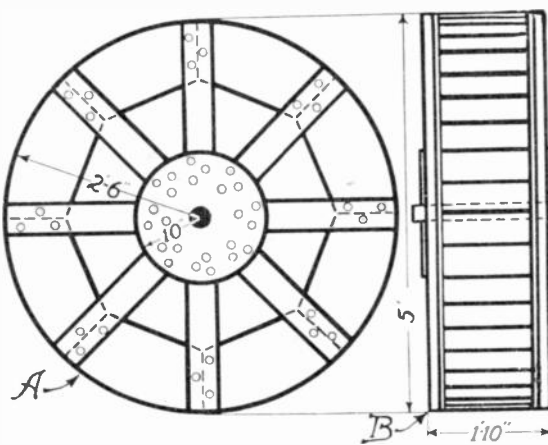

Fig. 4. Diagram with dimensions for the construction of the overshot water wheel.
Fig. 4 is a detailed drawing of the wheel. (A) is a side view and (B) is the full view of the wheel. Each rim is made of eight pieces of seasoned oak one inch thick, joined to the hub with eight 2-inch by 4-inch timbers. The hub is a circular piece of oak 20 inches in diameter. The